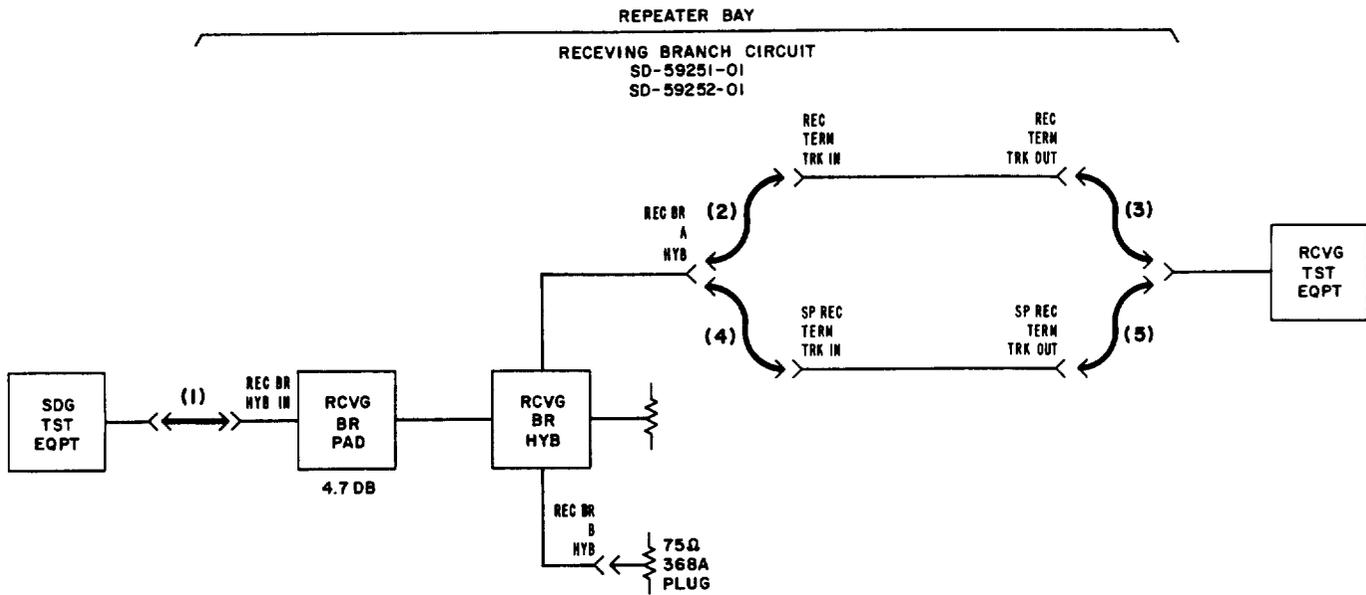

Fig. 1—Transmission Test of Receiving Branch Hybrid Equipment
2	In the repeater bay jack field, terminate the REC BR B HYB jack with a 368A termination plug (see Fig. 1).
5	In the repeater bay jack field, make patches designated (1), (2), and (3) in Fig. 1.
7	Make patches designated (1), (4), and (5) in Fig. 1.